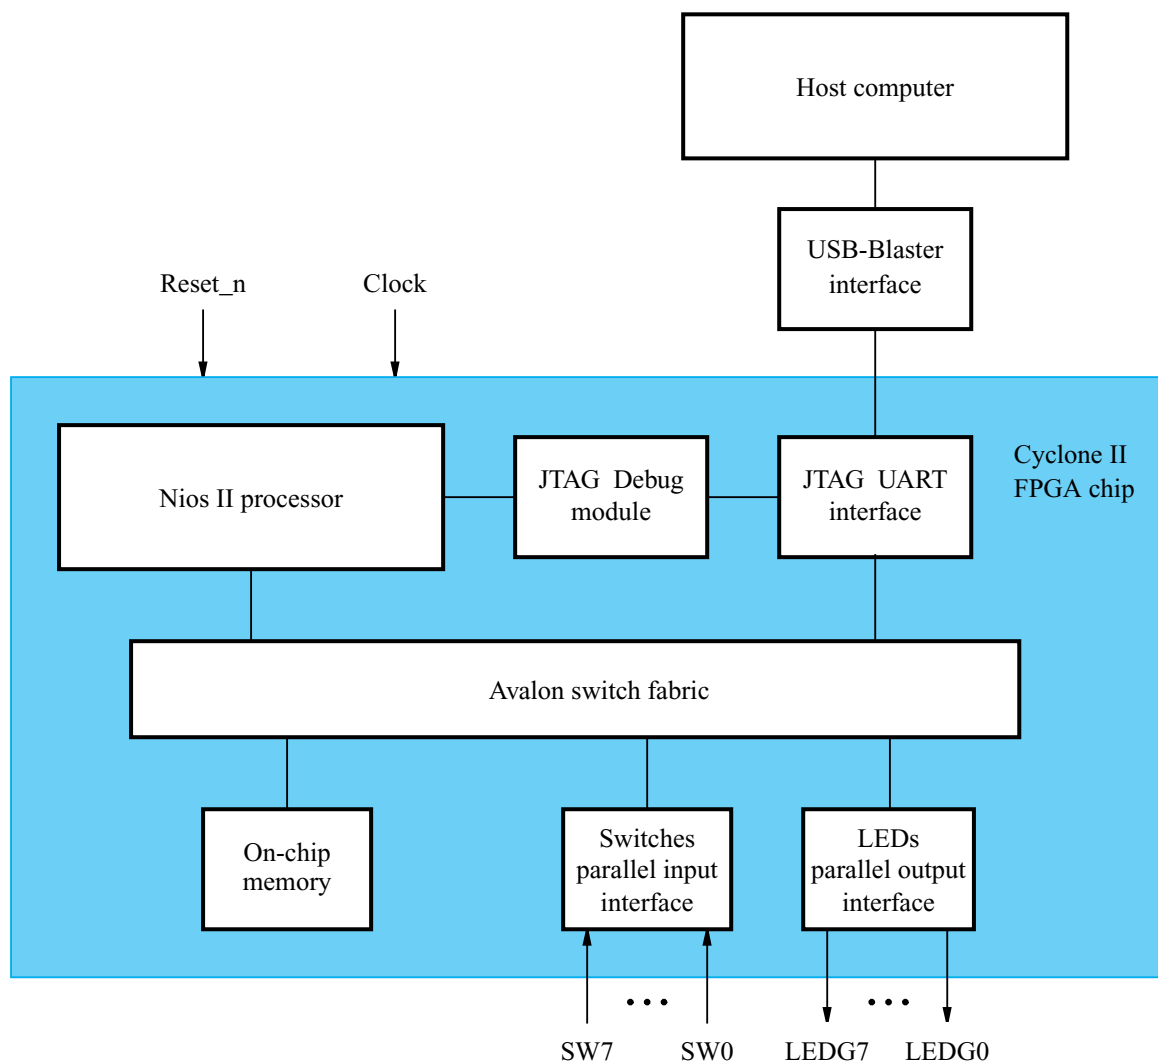
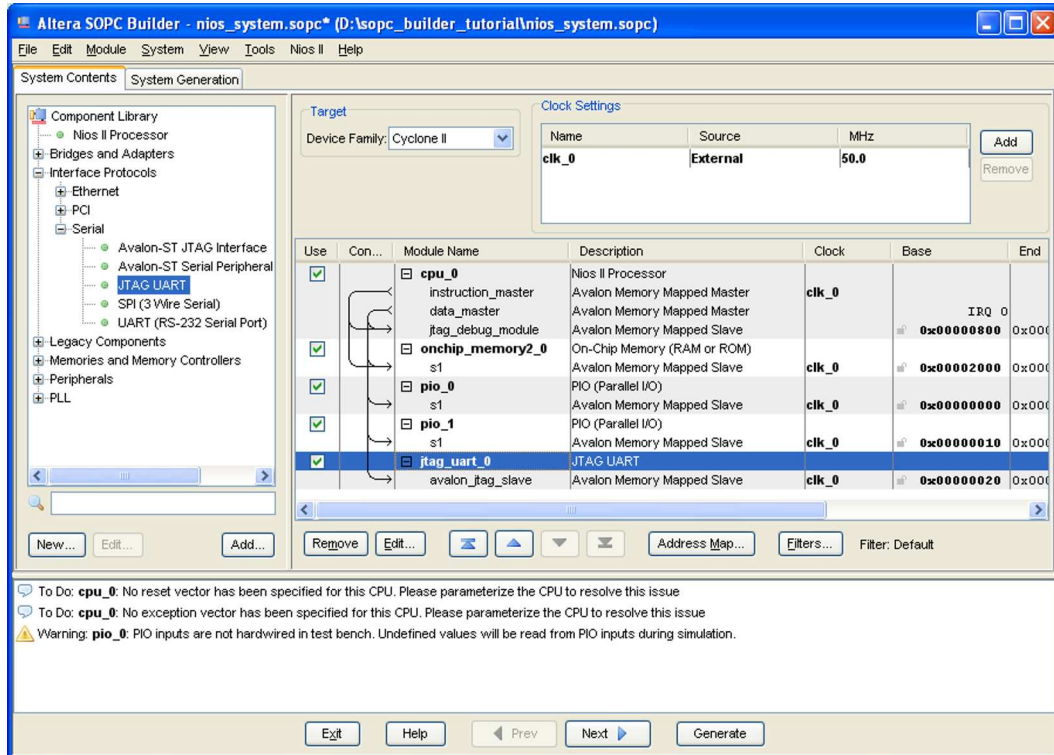

Figure 2. A simple example of a Nios II system.
Figure 13. The complete system.
Our example system is given in Figure 2. The system realizes a trivial task. Eight toggle switches on the DE2-70 board, *SW7* – 0, are used to turn on or off the eight green LEDs, *LEDG7* – 0. The switches are connected to the Nios II system by means of a parallel I/O interface configured to act as an input port. The LEDs are driven by the signals from another parallel I/O interface configured to act as an output port. To achieve the desired operation, the eight-bit pattern corresponding to the state of the switches has to be sent to the output port to activate the LEDs. This will be done by having the Nios II processor execute a program stored in the on-chip memory. Continuous operation is required, such that as the switches are toggled the lights change accordingly.
We will use the SOPC Builder to design the hardware depicted in Figure 2. Next, we will assign the Cyclone II pins to realize the connections between the parallel interfaces and the switches and LEDs which act as I/O devices. Then, we will configure the FPGA to implement the designed system. Finally, we will use the software tool called the *Nios II Monitor Program* to assemble, download and execute a Nios II program that performs the desired task.
The SOPC Builder is a tool used in conjunction with the Quartus II CAD software. It allows the user to easily create a system based on the Nios II processor, by simply selecting the desired functional units and specifying their parameters. To implement the system in Figure 2, we have to instantiate the following functional units:
10. The complete system is depicted in Figure 13. Note that the SOPC Builder automatically chooses names for the various components. The names are not necessarily descriptive enough to be easily associated with the target design, but they can be changed. In Figure 2, we use the names **Switches** and **LEDs** for the parallel input and output interfaces, respectively. These names can be used in the implemented system. Right-click on the **pio_0** name and then select **Rename**. Change the name to **Switches**. Similarly, change **pio_1** to **LEDs**.